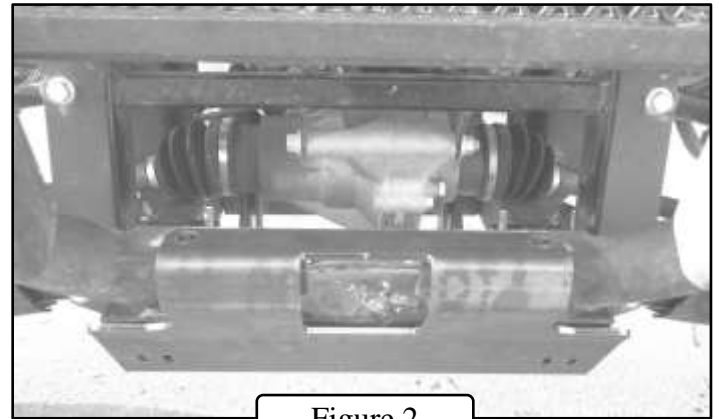

Figure 2
1. Place mount plate on machine as shown in Figure 2.